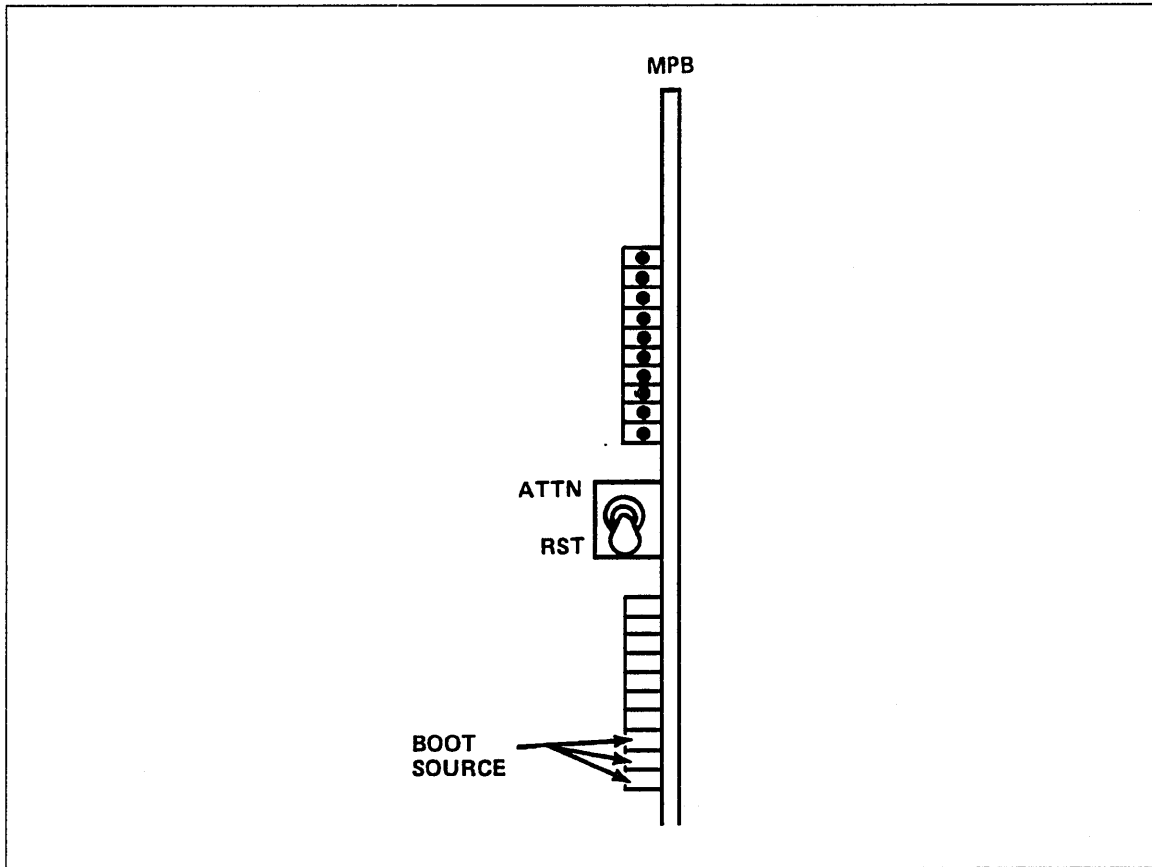

Figure 1-21. MPB Switches
2. Turn on DI power. All indicators come on for 1 second (see figure 1-21) and then indicator 5 (7 is the top indicator) flashes for about 10 seconds; disregard the other indicators.
6. Use switches 8 through 1 (data bits 7 through 0) on the MPB to enter the identifier. Two digits are entered at a time. Switch 8 is the most significant bit; switch 1 is the least significant bit. Example: if the identifier is 08-00-25-10-00-68-6A-88, the first two digits (08) are entered on the switches by converting the digits to binary:
All MPB switches (shown in figure 1-21) are located on the front edge of the board. There is one toggle switch and 10 configuration switches.
- 3 through 1 Refer to the installation worksheet to determine the slot number of the primary boot source. Set MPB switches 3, 2, and 1 equal to the slot number as shown in the table below. (L=left, R=right.) Figure 1-21 shows the location of the switches.